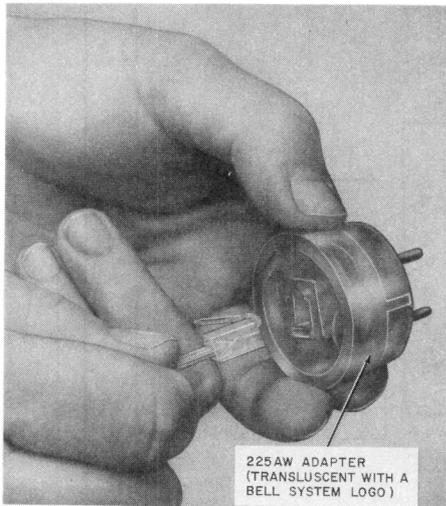
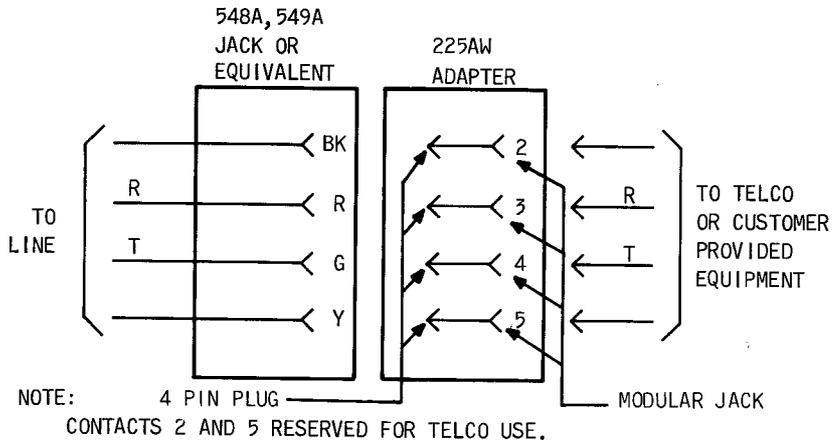

Fig. 1—225AW Adapter
Fig. 4—Connections for USOC RJA1X, 4-Pin Jack to Modular Jack
1.02 This section is reissued to revise Fig. 1, 2, 3, 4, and 6 to indicate new Bell System Logo.
2.01 USOC RJA1X: This arrangement uses a translucent 225AW adapter (Fig. 1) with a Bell System Logo to provide physical compatibility between the modular plug on the CPE and an existing 4-prong jack such as a 548A or 549A (Fig. 4). Tip and ring are always connected through to the CPE. A and A1 or other leads will appear in the adapter if connected in the existing jack.